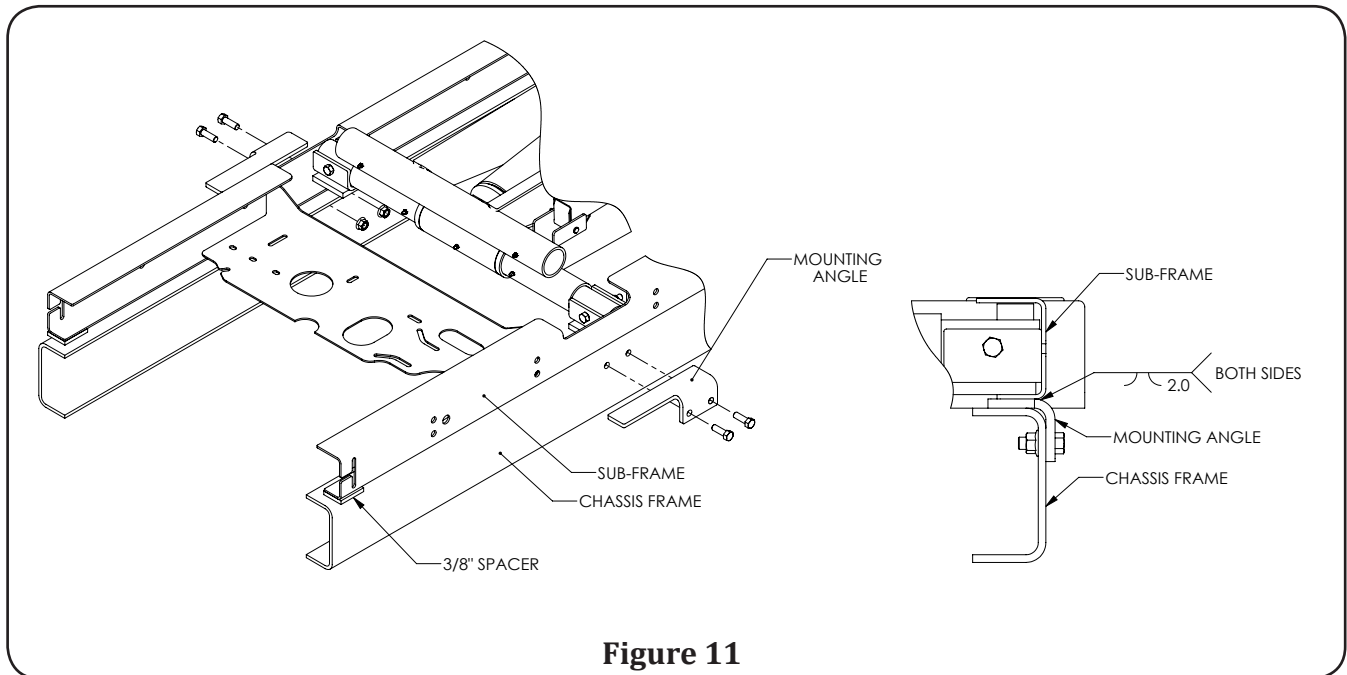

Figure 11
3. Secure each mounting angle to the truck frame by drilling two $17/32$ " diameter holes and bolting the mounting angles to the truck frame using two $1/2$ " GR8 bolts and nuts (**Figure 11**).
4. Weld each mounting angle to the sub-frame rail, keeping within the guidelines shown in (**Figure 11**). Do not weld the mounting angles to the chassis frame.